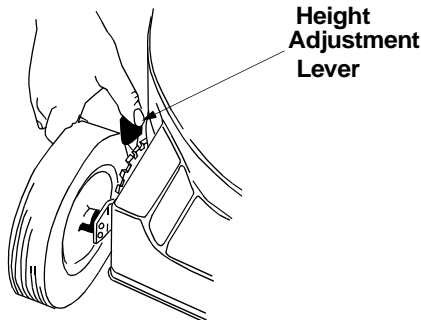

Figure 17
- Simply depress the lever towards wheel and move it to any of the nine positions for the desired cutting height. See Figure 17. All four levers on the four